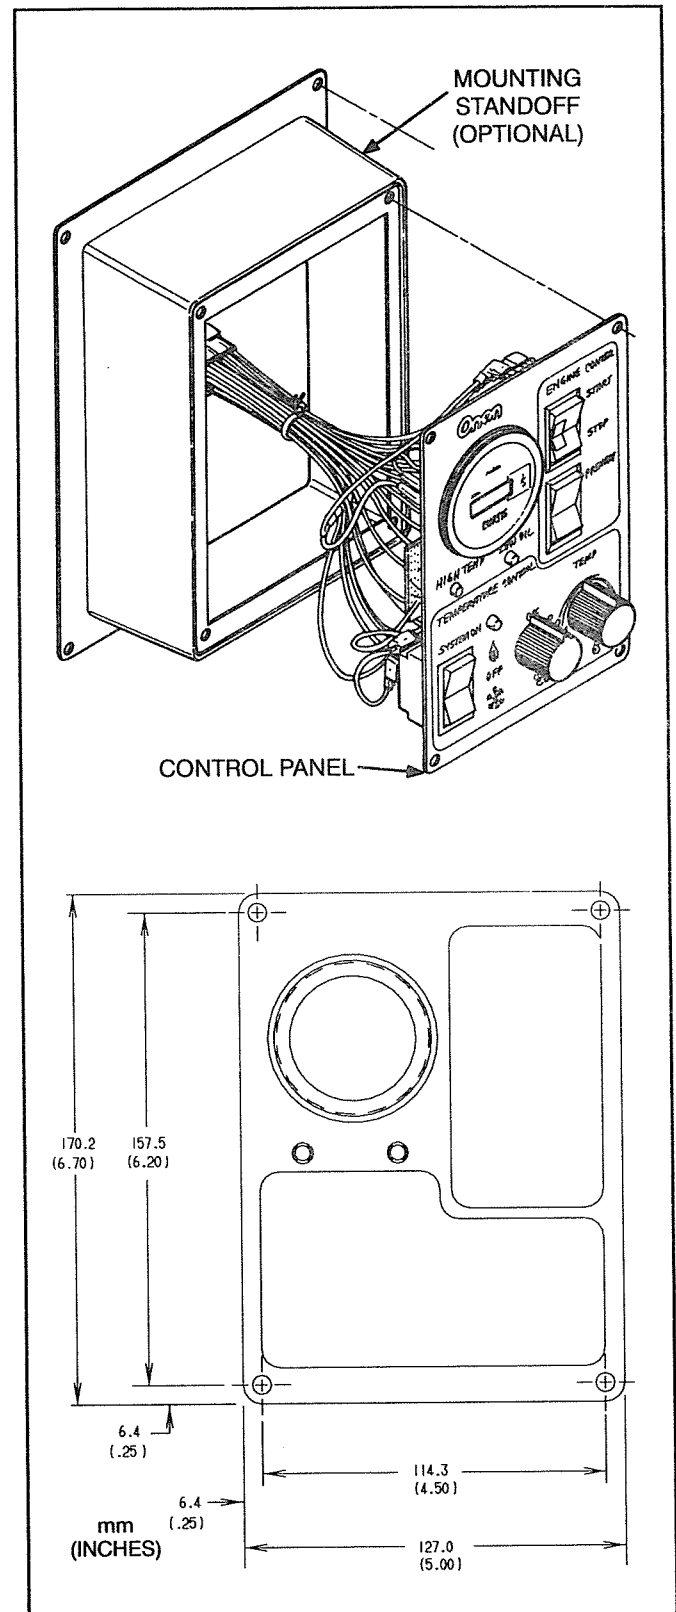

FIGURE 7-1. CONTROL AND STANDOFF
The new control panel can be flush mounted if there is access behind the mounting surface (like a closet or compartment) to route and connect control wires. With this type of mounting, protect the back of the control from contact that could cause shorts (coat hangers or other closet contents). If there is no access to the back of the control, use the standoff (Figure 7-1) for mounting the control. The standoff provides space behind the control for wiring.
2. Use the optional control panel standoff as a template to mark the mounting holes. If the standoff is not used, reverse the standoff and use the small hole pattern for the template to mark the mounting holes and cutout or see Figure 7-1.